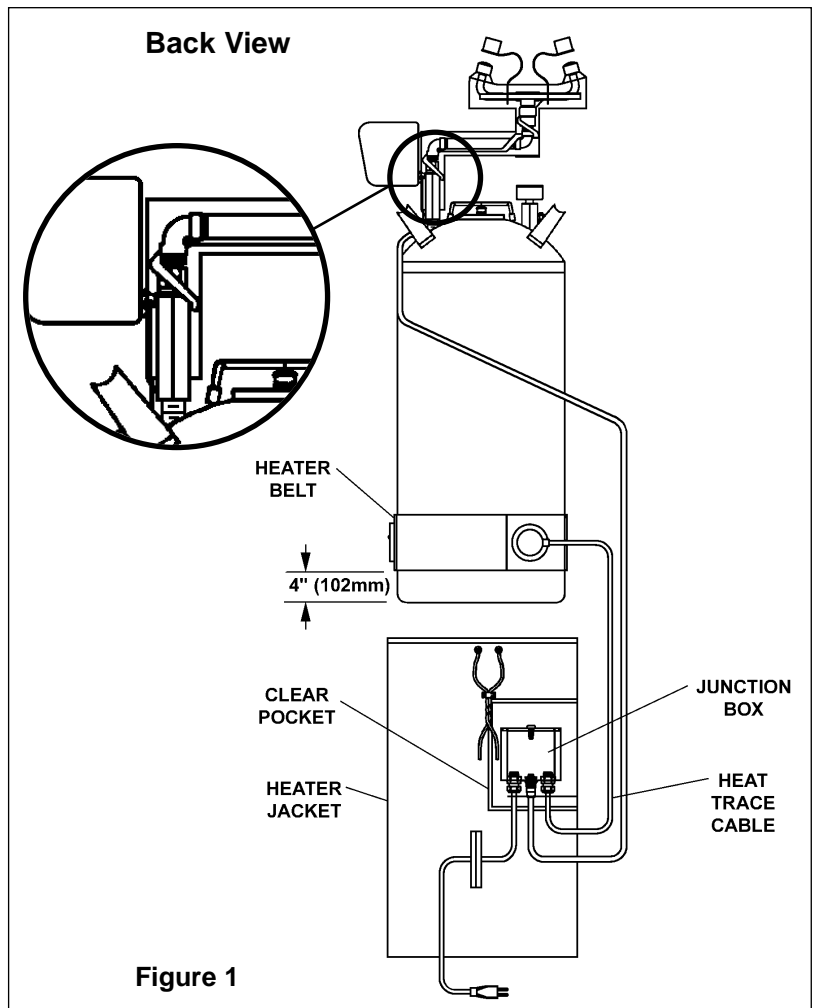

Figure 1
1. Attach the eye wash to the tank outlet with pipe sealant (supplied by installer) (see Figure 1).